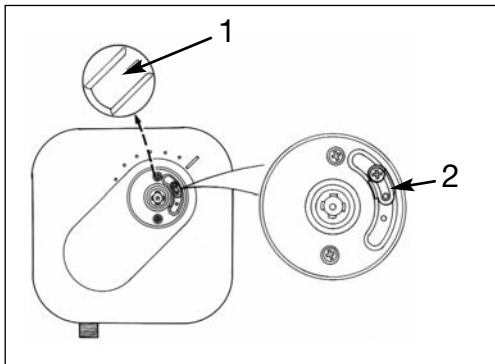
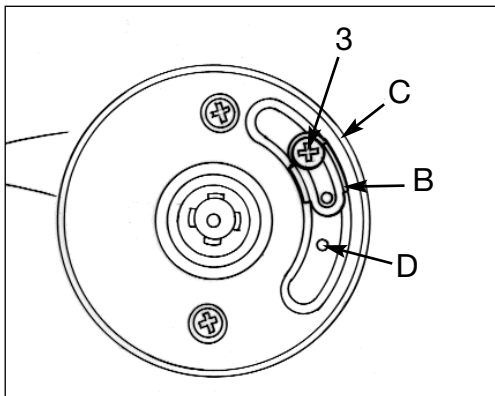

Fig.8. Front Cover
Fig.8a. Temperature Limit Stop
Manual - Fig.8. & Fig.8a.
1. Remove the control knob (1) by pulling firmly.
2. The temperature limit stop adjuster (2) has three positions A, B & C, giving a range of temperature adjustment settings from cool to hot A being the coolest. Fig.8.
3. If adjustment is necessary, remove the locking screw (3) and relocate adjuster (2) in fixing position A, B or C, depending on the user's requirement for maximum temperature. Fig.8a.